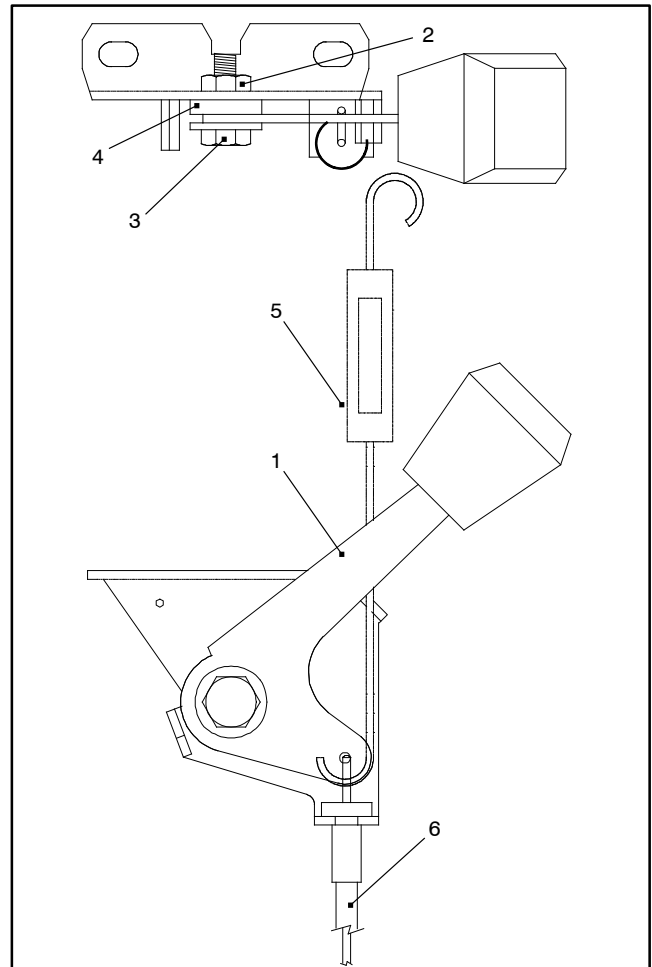

Figure 7
- Note:** Attach spring scale where the throttle cable is attached to the control lever (Fig. 7).
7. If throttle control lever does not stay in position during operation, torque lock nut and cap screw used to tighten the friction disc from 40 to 55 in- lb (4.5 to 6.2 N- m). The force required to operate the throttle control lever should be 20 lb (89 N). Torque fasteners as necessary (Fig. 7).